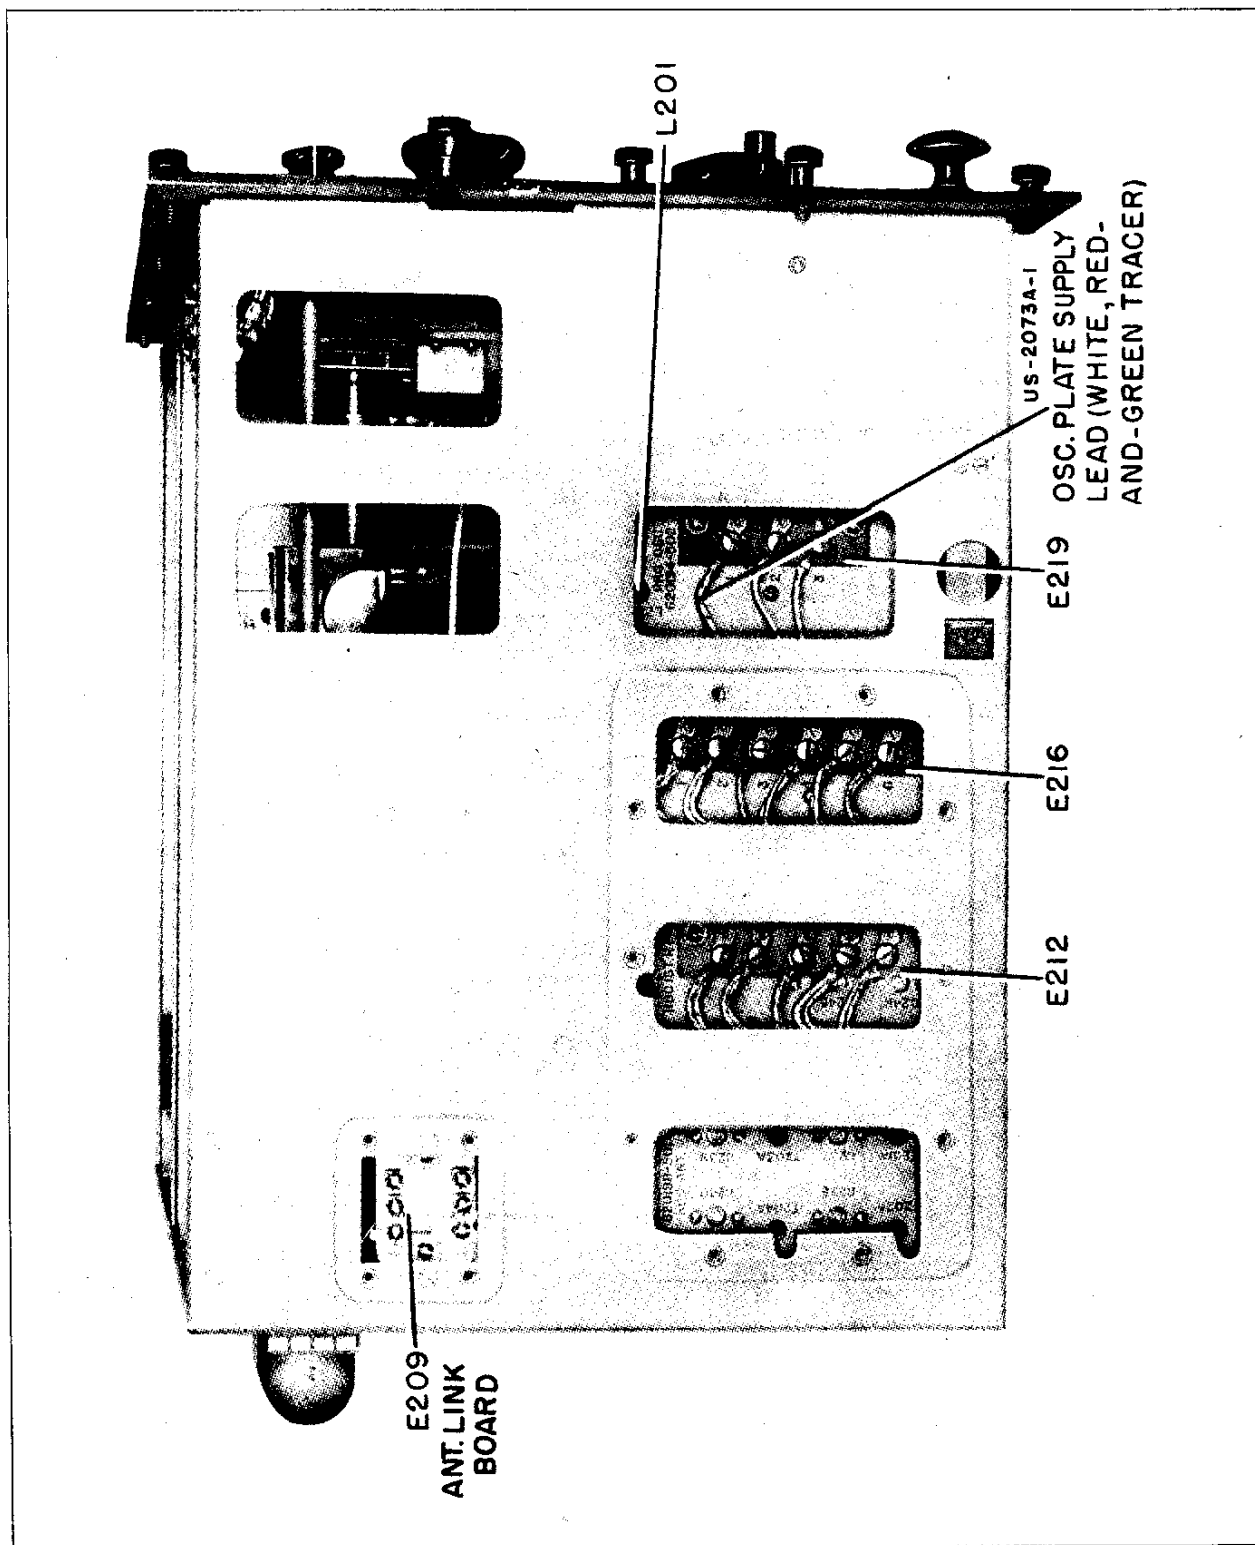

Figure 7-14. RBC Terminal Board Identification, Left Side—Shield Covers Removed
(4) ADJUSTMENT OF OUTPUT LIMITER PAD R362.—Potentiometer R362, which sets the level to the output limiter circuit, may be adjusted as follows. This control is shown on Figures 7-14 and 7-16. A generator is required capable of supplying an unmodulated r-f signal, at any input frequency.
Adjust L201 for minimum beat note variation. The core-adjusting screw of L201 is located on the side of the chassis, adjacent to terminal board E219, and is identified on Figure 7-14.
* For accurate alignment of C252, a d-c voltmeter should be connected from pin 5 of V204 to ground. Referring to Figure 7-14, remove the oscillator plate voltage. Apply a sufficient generator input to obtain a slight change in the indication on the voltmeter. Adjust capacitor C252 until maximum indication is obtained on the voltmeter.